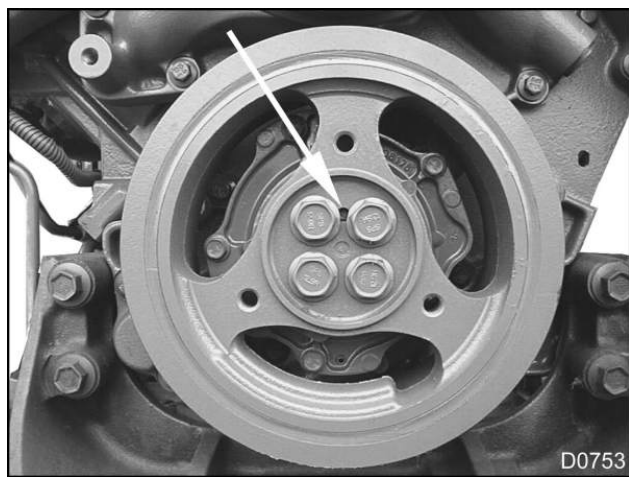

Figure 4 Dowel Hole in Vibration Damper
2. Locate dowel hole in vibration damper (Figure 4). The hole is located between two of the four bolt heads.